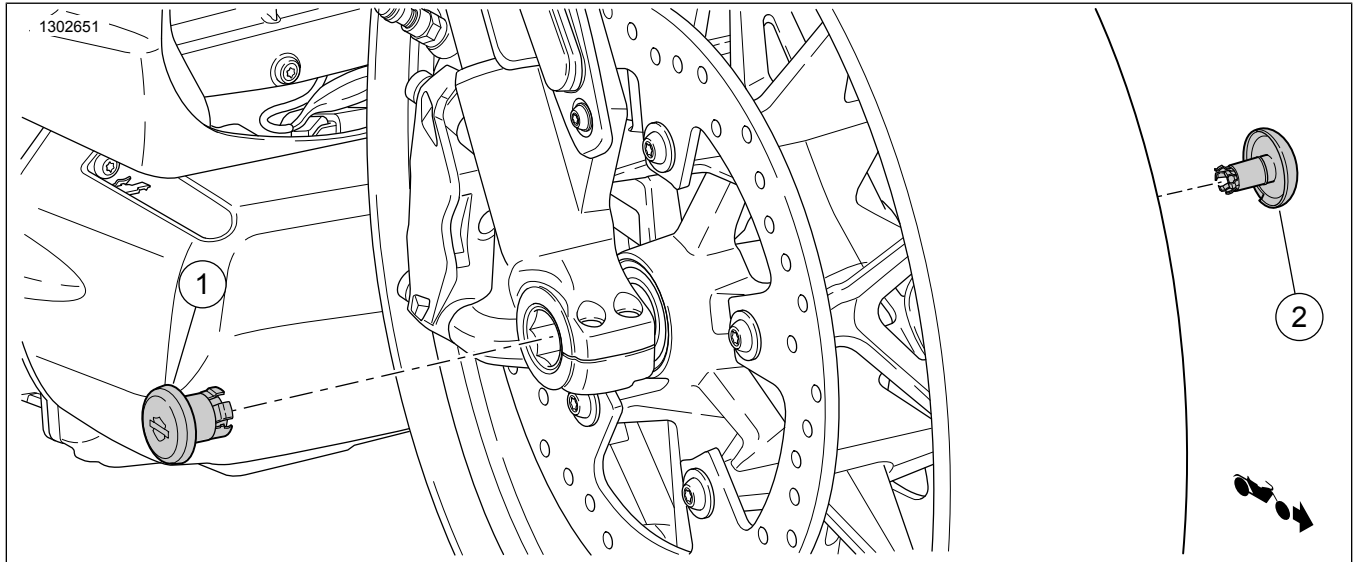

Figure 1. Kit Contents: Axle Covers
1. See Figure 1. Open Original Equipment (OE) axle covers (1,2).
1. See Figure 1. Install **new** right (hex) side axle cover (1).
2. Figure 1 Install **new** left (circular) side axle cover (2).